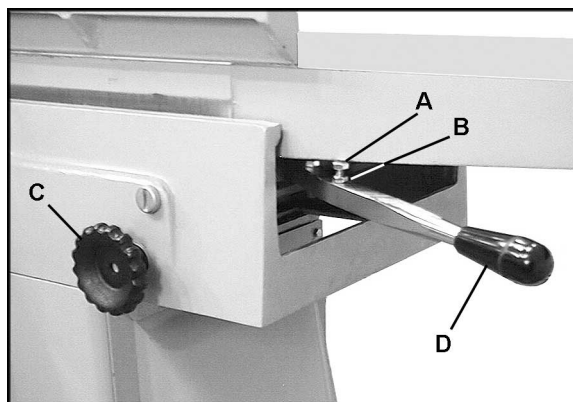

Figure 12
1. The outfeed table has a stop screw (A, Figure 12) which, when contacting the edge of the table as shown, will ensure the outfeed table is at the proper height. Loosen the handwheel (C, Figure 12) and raise the outfeed table adjustment arm (D, Figure 12) until this stop screw (A, Figure 12) contacts the edge of the table as shown.
4. To raise the height of the outfeed table, loosen the hex nut (B, Figure 12) and rotate the stop screw (A, Figure 12) clockwise. To lower the height of the outfeed table, rotate the stop screw (A, Figure 12) counter clockwise.
5. When the outfeed table is level with the knives, tighten the hex nut (B, Figure 12) and firmly tighten the handwheel (C, Figure 12).